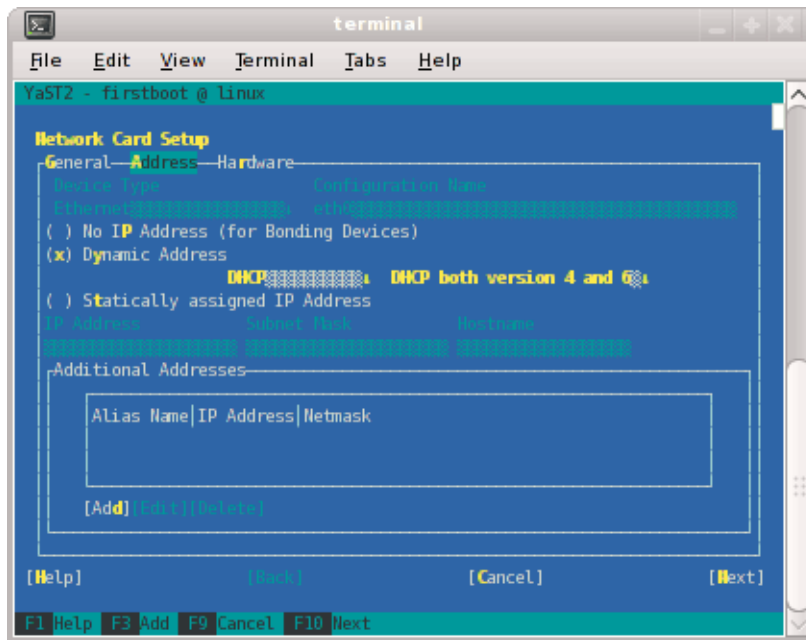

Figure 2-13 Network Card Setup Screen
6. The **Network Card Setup** screen appears, as shown in Figure 2-13 on page 48. SGI suggests using static IP addresses and not DHCP for admin nodes. Select **Statically assigned IP Address**. Once selected, you can enter the IP Address, Subnet Mask, and Hostname. These are the settings for your admin node's house/public network interface. You will enter the default route, if needed, in a different step. Select **Next** to continue.